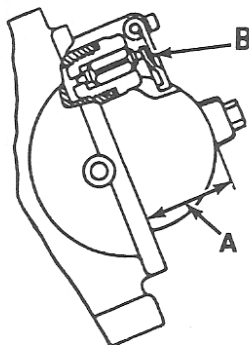
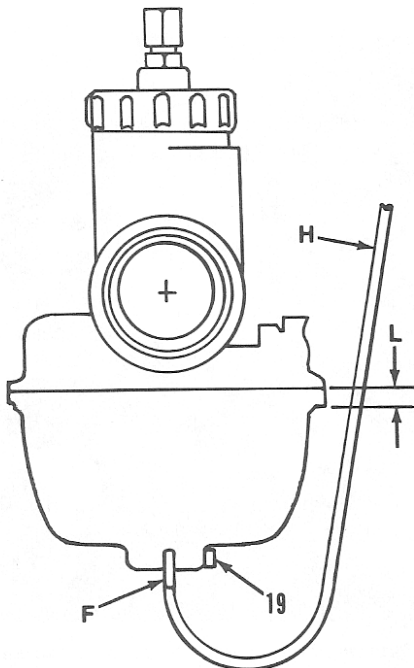

Fig. K7-9—Position carburetor so float rests lightly against fuel inlet needle and measure float height at (A). Gently bend float arm tang (B) to adjust.
Fig. K7-10—The fuel level (L) is measured from the bottom edge of carburetor body. Refer to text.
When servicing carburetor, observe the following: Refer to the appropriate carburetor specification list for service information. Carefully examine jet needle (6), inlet valve (15) and idle mixture screw (10) for excessive wear and damage. All "O" rings and gaskets should be renewed prior to reassembly. Ensure clip (5) is installed in the correct groove on jet needle (6). To check float height (A—Fig. K7-9), hold carburetor so float is resting lightly on inlet needle. Adjust float height by carefully bending float arm tang (B). The fuel level is checked with the carburetor installed and vehicle operational. To check fuel level, attach a suitable clear hose (H—Fig. K7-10) to fuel overflow fitting (F). Hose should be of sufficient length to extend above the bottom edge of carburetor body without kinking the hose. Open the float bowl drain screw (19) approximately 2 turns. Run the engine at idle speed until fuel level in hose stabilizes then stop engine. Measure the distance from the bottom edge of carburetor body (float bowl contact surface) to fuel level in hose to determine fuel level as